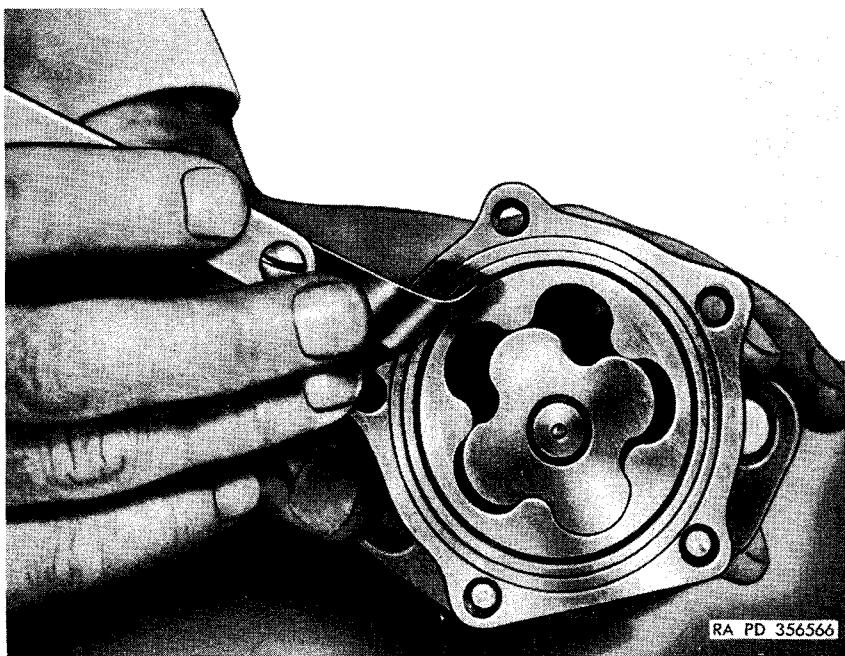

Figure 73. Checking clearance between outer rotor and body.
e. *Measuring Clearance Between Outer Rotor and Body* (fig. 73). To determine the clearance between the outer rotor and body, insert a feeler gage between the outer rotor and body. If this clearance is more than 0.012 inch, replace pump body only after measuring diameter and thickness of the outer rotor as described in f below.